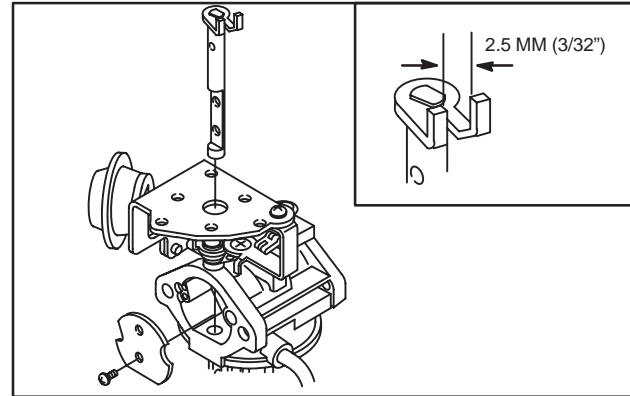

Fig. 44 – Installing Choke Shaft
5. Install choke shaft through pivot arm bushing and into carburetor body, Fig. 44.